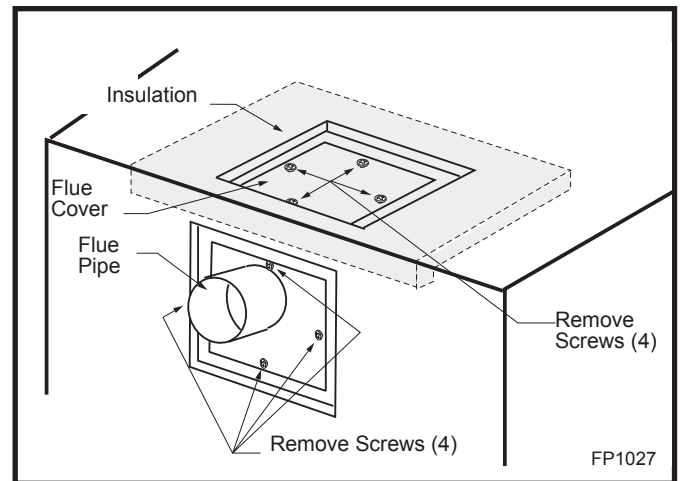

Fig. 10 Remove flue cover and flue pipe.
3. Remove all of the insulation material (exposed in Step 2) from the top of the unit. (Fig. 10) This material can be discarded, however if the unit is converted back to rear vent for any reason a new piece of insulation material approved by CFM Corporation must be used for this purpose.